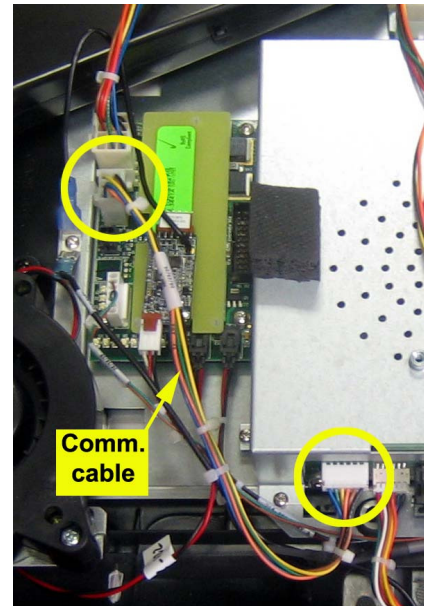

Fig. 5
- a. Disconnect and reconnect to ensure there is a firm connection. *Note: The picture of Fig. 5 is of a screen which is not mounted on a treadmill.*